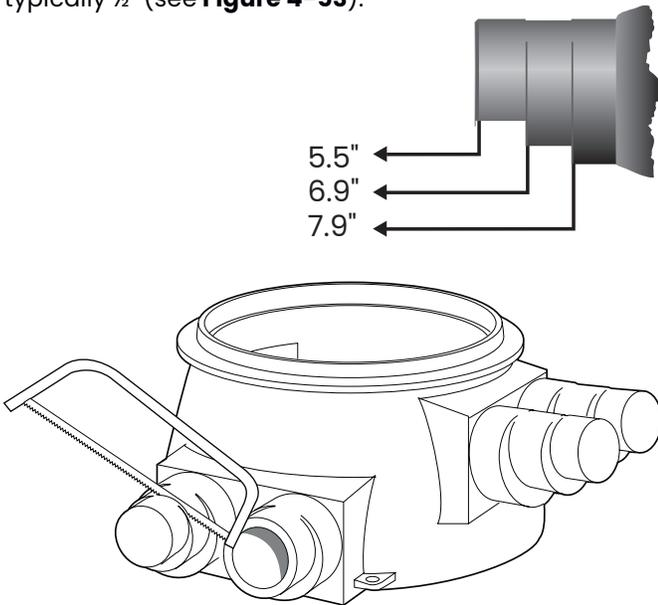

Figure 4-53: Cut the outlet
2. Using a hand saw, cut away end of the outlet suitable for the outside diameter of the Ecoflex jacket – only cut what is necessary to ensure a full-sized opening – typically $\frac{1}{2}$ " (see **Figure 4-53**).